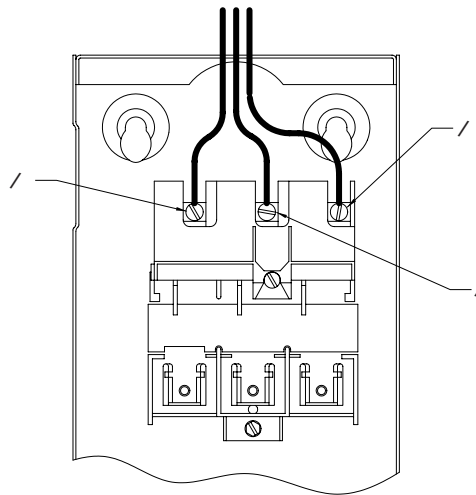

Figure 3-3 Main Disconnect Terminal Block
- 2) Measure and record the incoming voltage across the terminal block of the main disconnect. (See Figure 3-3).